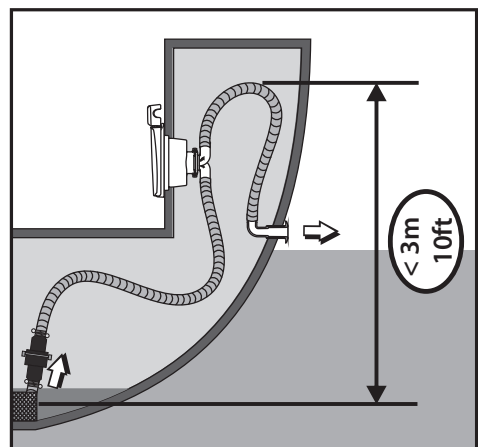

fig. 1
### Bilge Pumping system (see Fig. 1)
10. Route discharge hose on an upward incline from the pump to the thru-hull connector. See Fig. 1. Avoid dips in hose that can trap water and airlock the pump. Avoid putting excess tension on hose, which can damage the pump outlet. Attach the discharge hose to the thru-hull fitting with double stainless steel hose clamps.